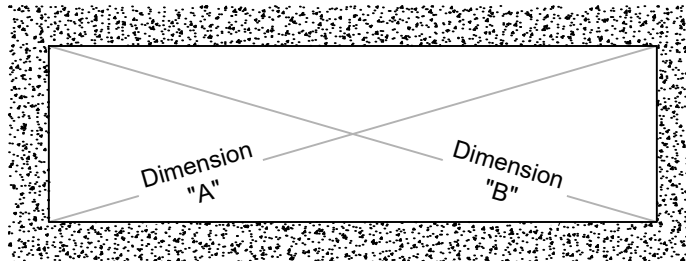

FIG. 1
- Make sure the opening is square and plumb. Measure each diagonal of the opening. See **FIG. 1**.